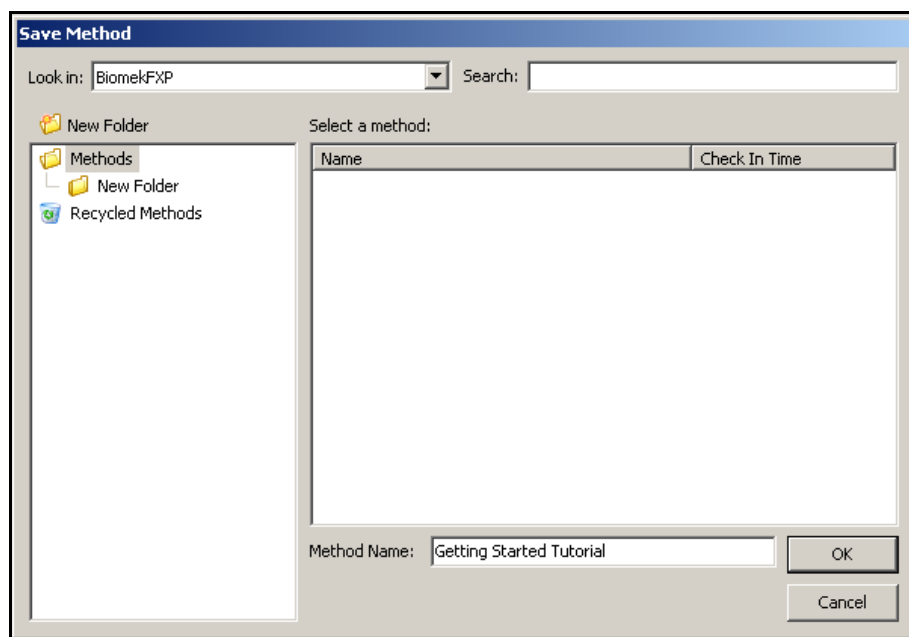

Figure 5-17. Save Method
2. In **Method Name**, type the file name under which your method will be saved. For this chapter, type **Getting Started Tutorial** (Figure 5-17).